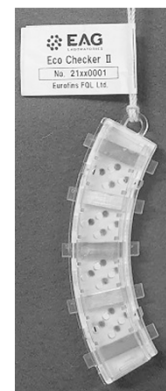

Fig.1
- Please fill “Measurement Point” and “Start date” in the attached sticker, then put it into the string, as shown in Fig. 1.